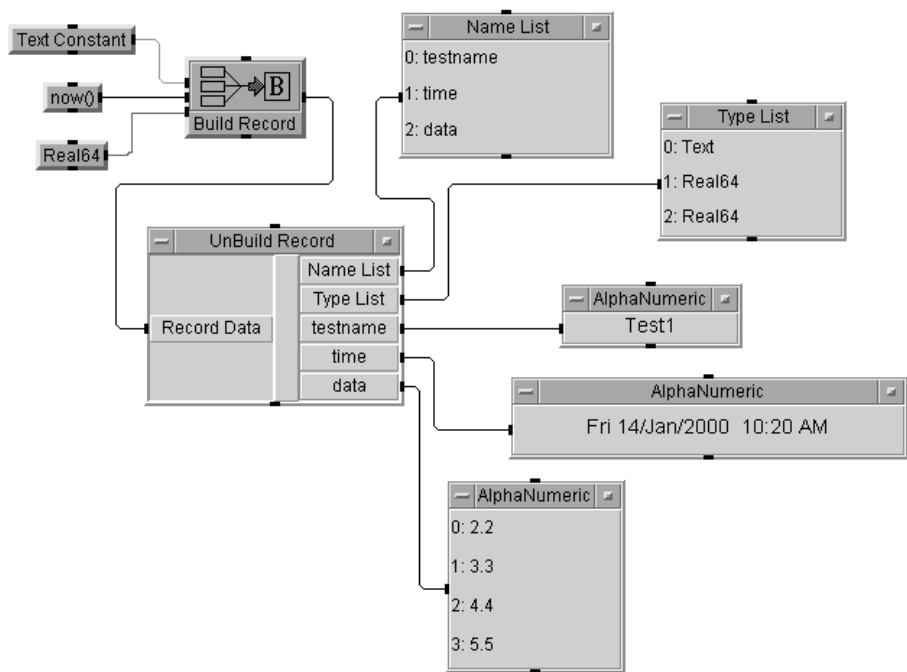

Figure 138 Using the UnBuild Record Object
- 4** Run the program and save it as **unbuild.vee**. It should look like Figure 138.